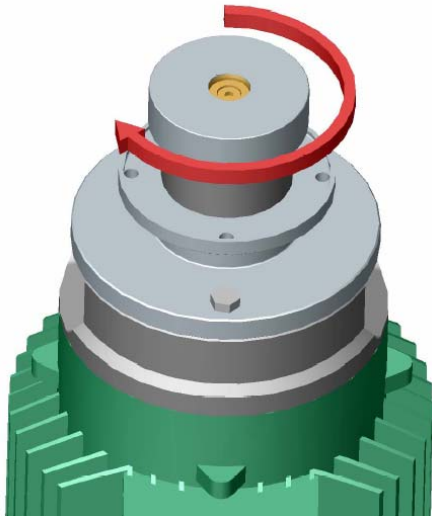

Fig. 5.3.1
2. Rotation direction. The proper rotation direction is clockwise see fig 5.3.1.